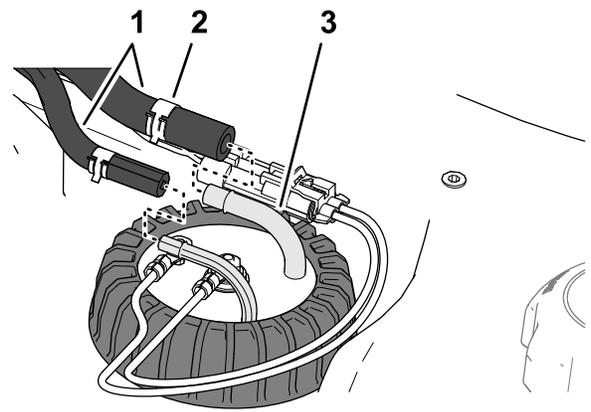

Figure 129
5. Assemble the hose onto the fittings of the fuel sender, and secure the hoses to the fittings with the clamps (Figure 129).